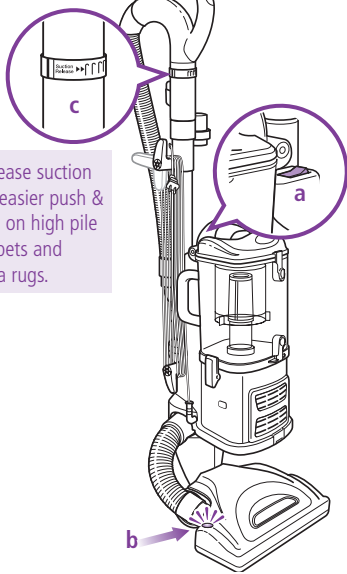

Fig. 11
- 3 Press the On/Off switch (a) to the "I" position to vacuum bare floors (straight suction only) or to the "II" position to engage the motorized floor brush (for vacuuming carpets and rugs). (Fig. 11)
IMPORTANT: The motorized brush indicator light (b) will illuminate green when motorized floor brush is on, or red if there is a blockage or jam. (Fig. 11) This feature is designed to protect your Lifetime Belt that powers your motorized floor brush. See Checking for Blockages on page 15.
- 5 **Due to the huge suction power of this vacuum, it may become necessary at times to adjust the suction release (c) on the handle. (Fig. 11) If the vacuum seems difficult to push or pull or if it is lifting up area rugs, adjust the suction release by rotating the collar 90° counterclockwise to open the valve. Rotate the collar clockwise to close the valve when you need high suction and for vacuuming floors.**